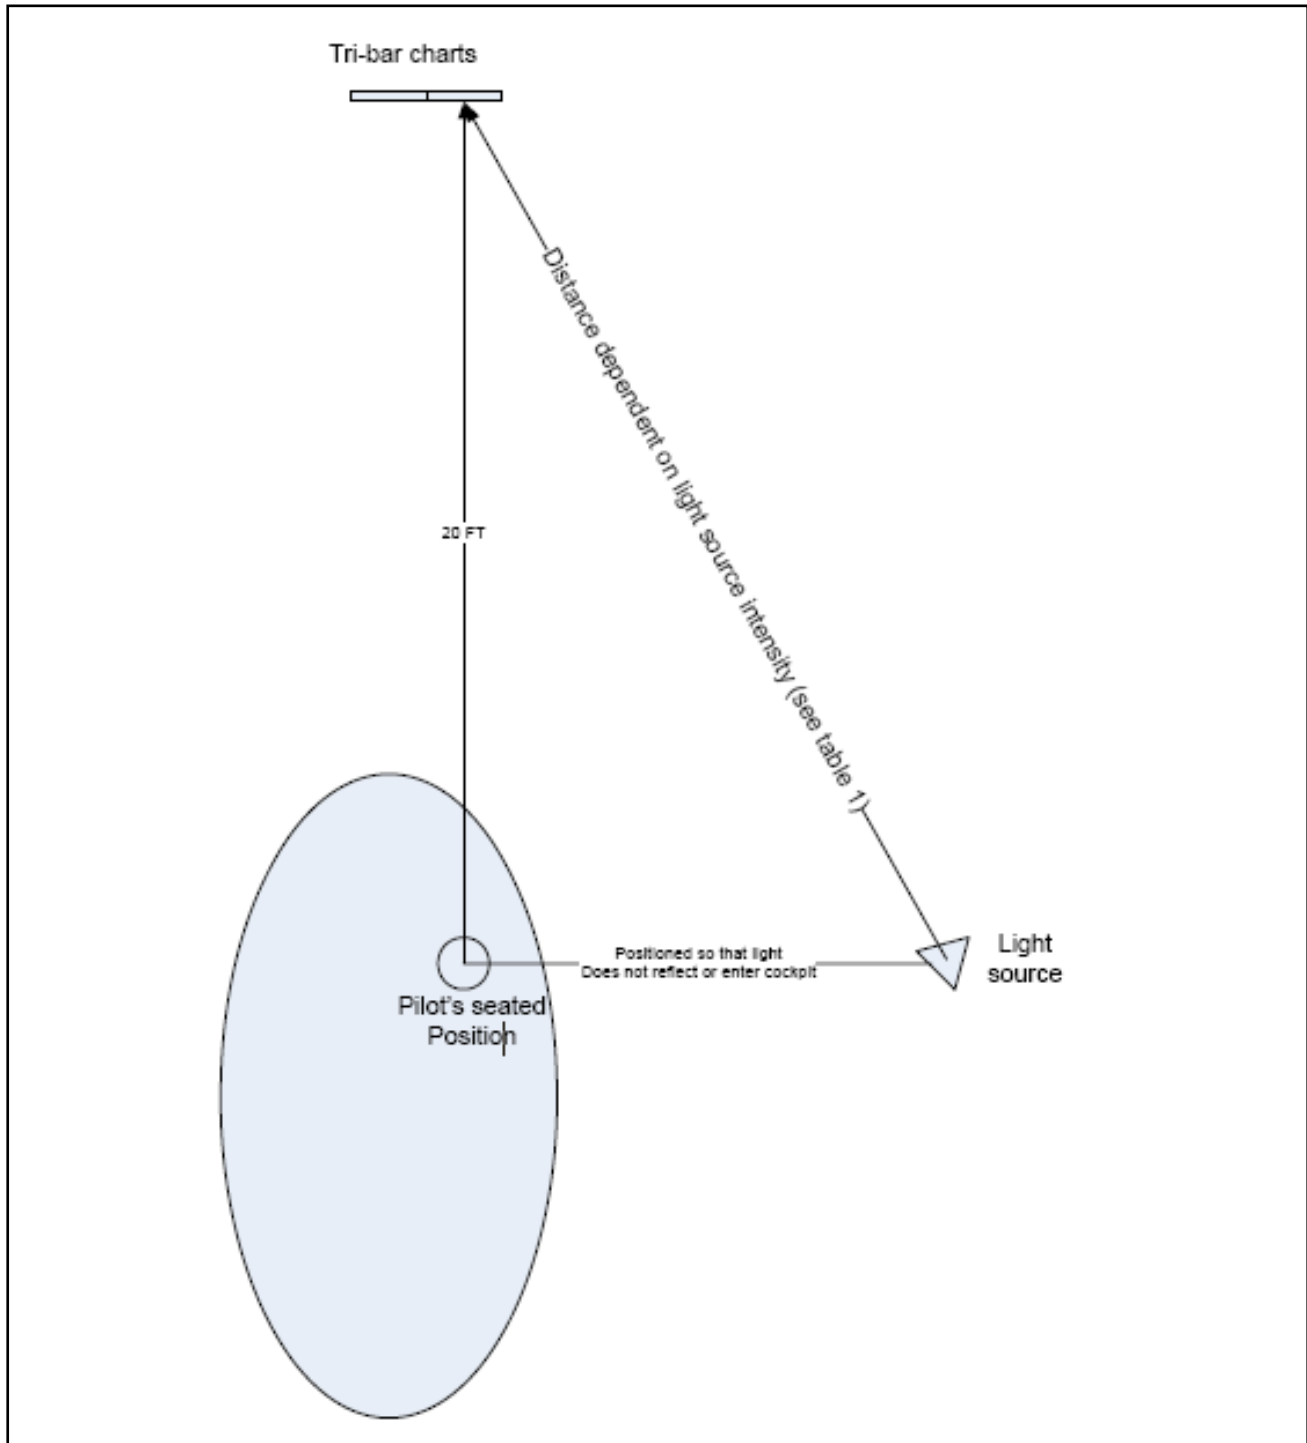

Figure 1 – Target & Illuminator Set-Up
- 7) Position a USAF 1951 Resolution Resolving Power Target Medium Contrast (Tri-Bar) Chart and USAF 1951 Resolution Resolving Power Target High Contrast (Tri-Bar) Chart 20 feet in front of and level with the pilot's eye position (see Figure 1).
- 15) Set the distance from the Illuminator to the Target by moving the Illuminator to the distance recorded in Step 14 (See Figure 1).